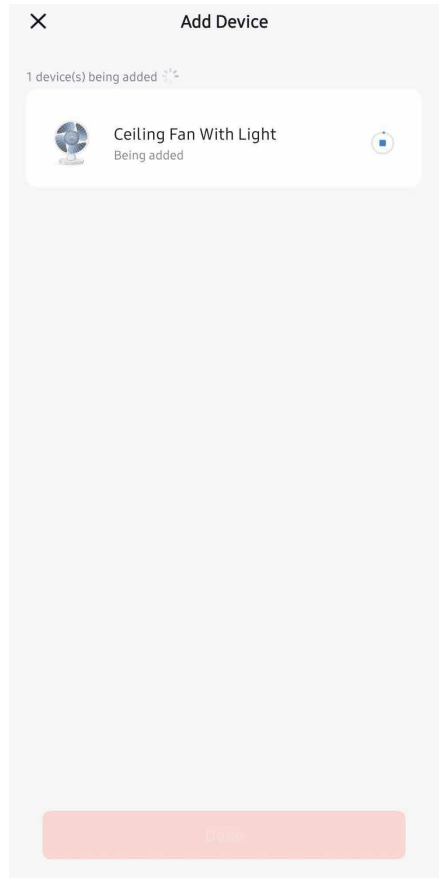

Figure 19
- 9 Wait a few more moments and allow fan to be added. (Fig.19)